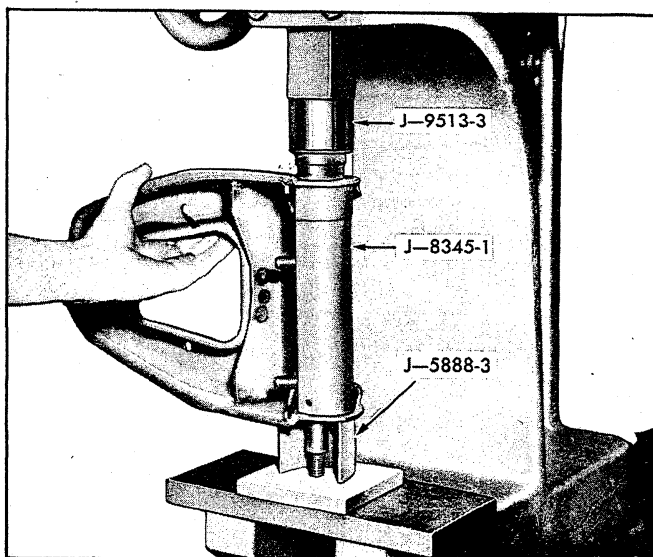

Fig. 40 - Installing Pivot Shaft Bushing - Chevy II
3. Press bushing into place with Installer J-9513-3 (fig. 40).